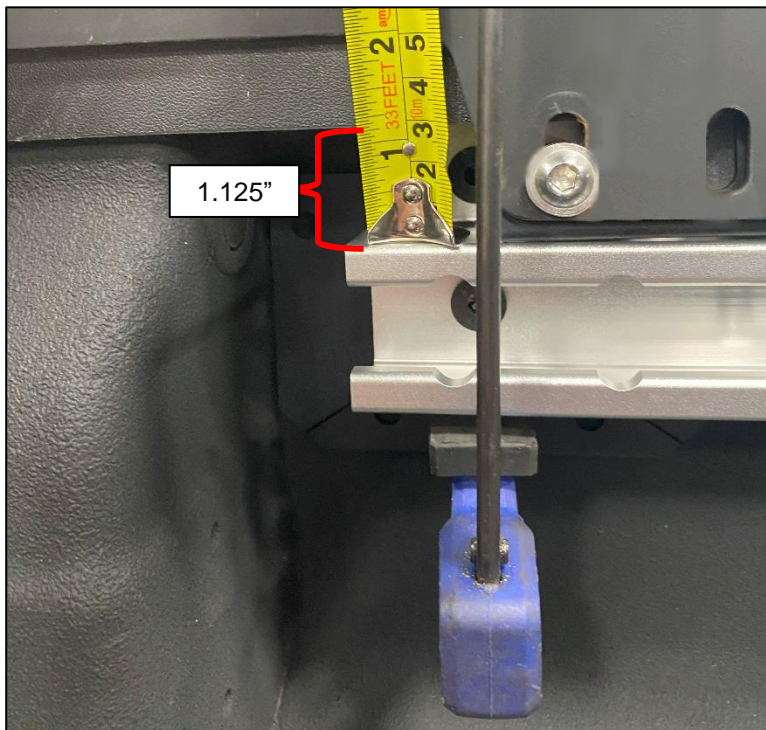

Figure 6
7. Pivot the Utility Track up and into position. The Utility Track should sit about 1.125" from the lip of the Bed. Secure the Utility Track in this position with a Clamp or other similar tool. *Figure 6.*